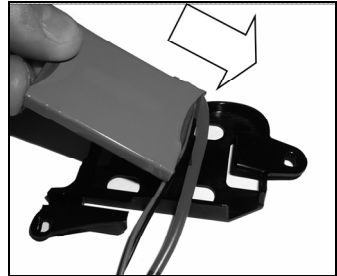

Fig. 15
- Insert the battery in its holder, first positioning the side equipped with the cables underneath the plastic tab (Fig. 15).